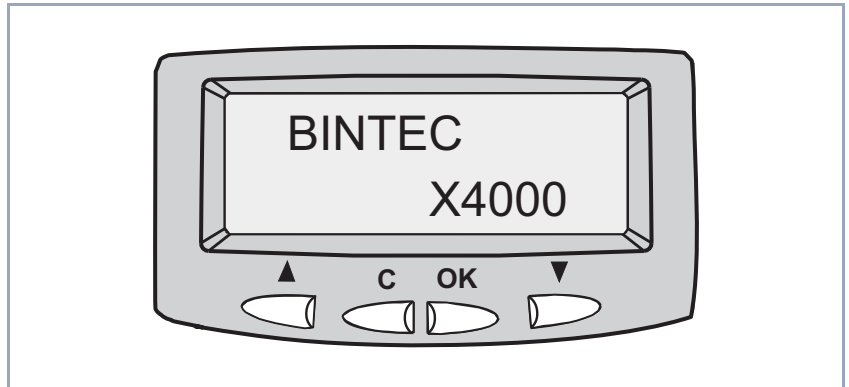

Figure 5-1: MMI with display and input keys (logo)
**Logo** After switching on, **X4000** first performs a few selftests and then shows the **X4000** logo on the display (see Figure 5-1, page 93). Press any input key to use the MMI. If no more inputs are made for a long period of time, the MMI returns to the logo. You can set this period of time in the "Display Idle Timer" menu.